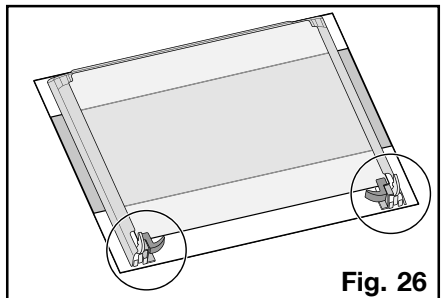

Fig. 26
6. Place the door on a stable surface protected by a soft cloth to prevent the handle surface from being damaged (Fig. 26).